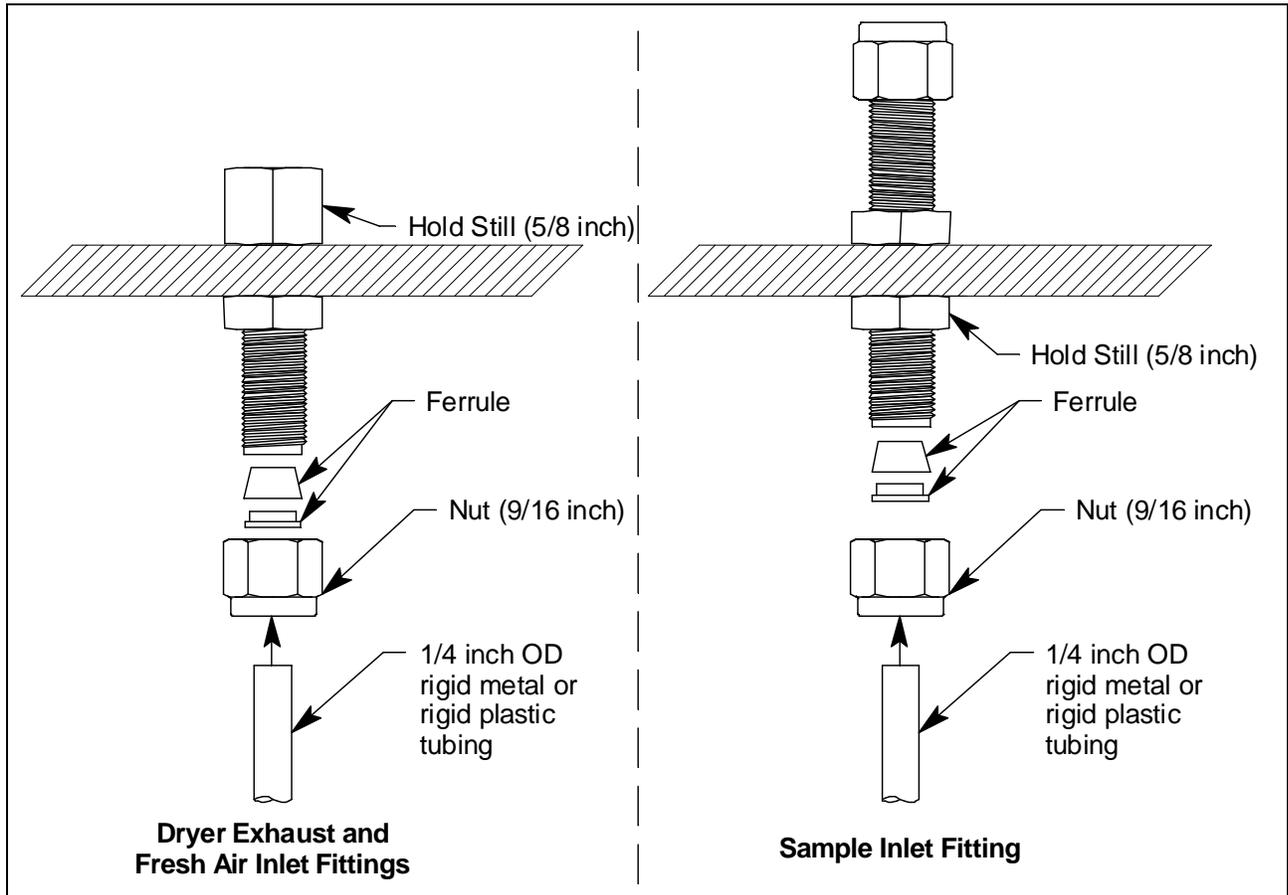

Figure 19: Compressed Fitting Connection
1. Install the desired length of 1/4 inch OD rigid metal or rigid plastic tube into the tube nut and ferrules as shown in Figure 19. Stainless steel, Teflon, or polypropylene tubing are recommended.
2. Before tightening the nut, be sure to hold the fitting still so it does not rotate using a 5/8 inch open-end wrench or an adjustable wrench. The dryer exhaust and fresh air inlet fittings will have to be held from the inside of the housing while the sample inlet fitting will have to be held from the outside (see Figure 19). While holding the fitting still, firmly tighten the nut with a 9/16 inch open-end wrench or an adjustable wrench so the ferrules crimp onto the sample tubing and make a seal.